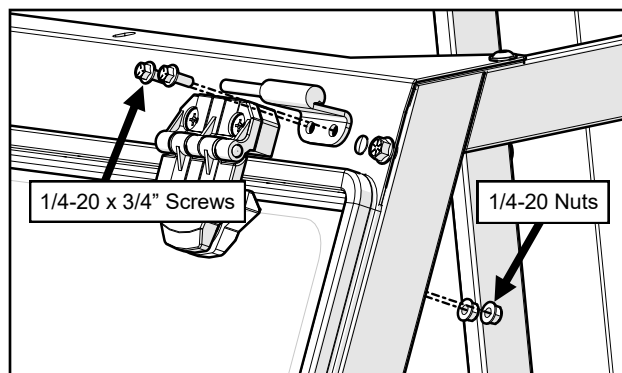

Fig. 3.1a (Left Hinge Pin Orientation)
- 3.1 Remove any installed dome plugs and loosely install the left and right hinge pins to the windshield support as shown in Figures 3.1a and b.